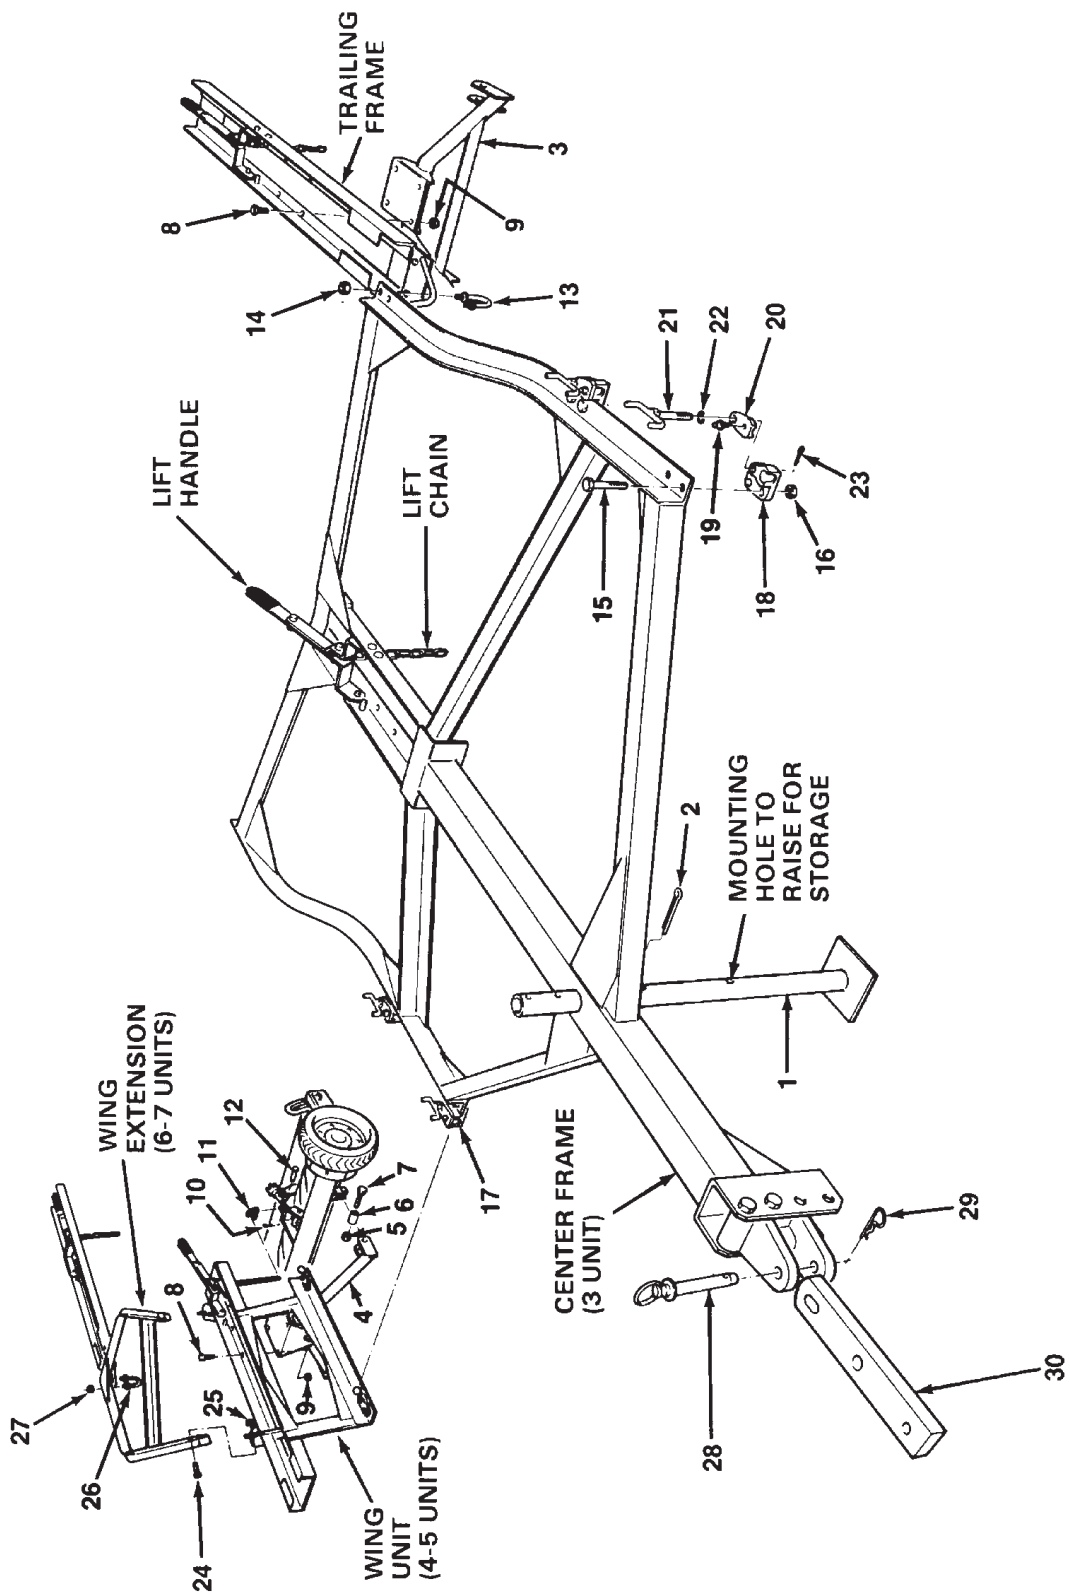

Figure 1
**Note:** Use this chart and figure 1 to ensure that all parts have been received. Without these parts, total setup cannot be completed.